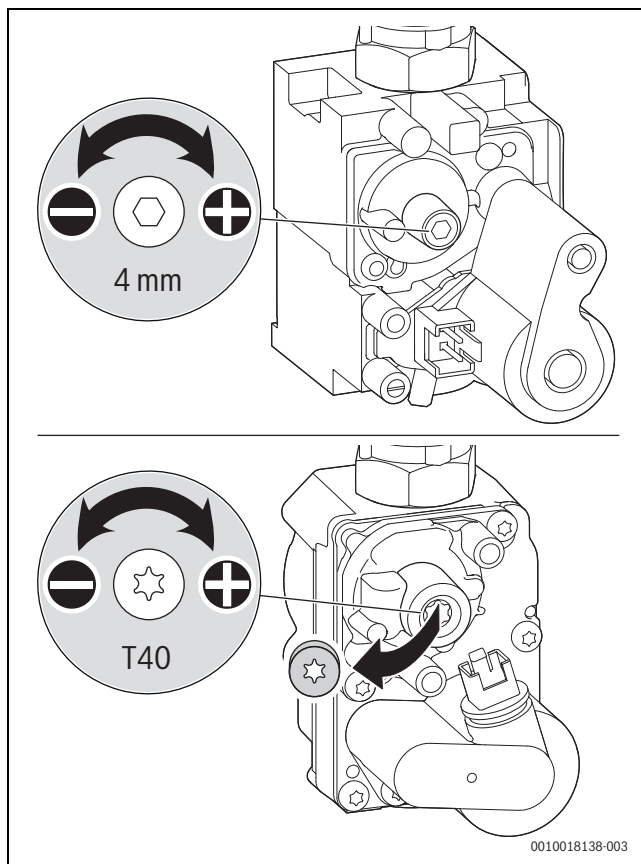

Fig. 42 Set the CO₂- or O₂ content
- Remove the seal from the adjusting screw of the air/gas ratio control valve (only on the air/gas ratio control valve shown in the below Fig. 42) and set the CO₂ or O₂ content for minimum rated output.